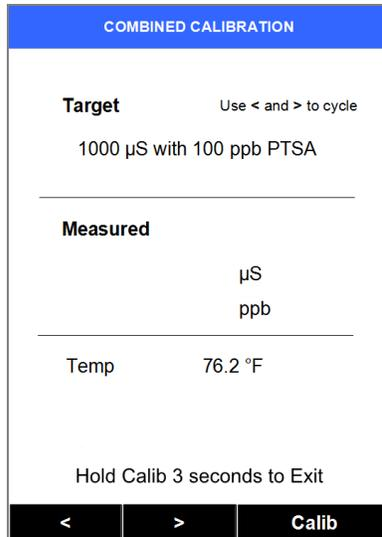

Figure 15
- 4) A screen similar to Figure 15 will appear. The normal default conductivity calibration mode is the Combined Calibration, but is easily changed to the other calibration modes as desired.
- 2) If after Figure 15 (Step 6) a path showing all calibration targets types is desired, use a > rather than < as above (< goes directly to User Defined, > goes in the “opposite direction”). This will need more > presses than the single < press above.